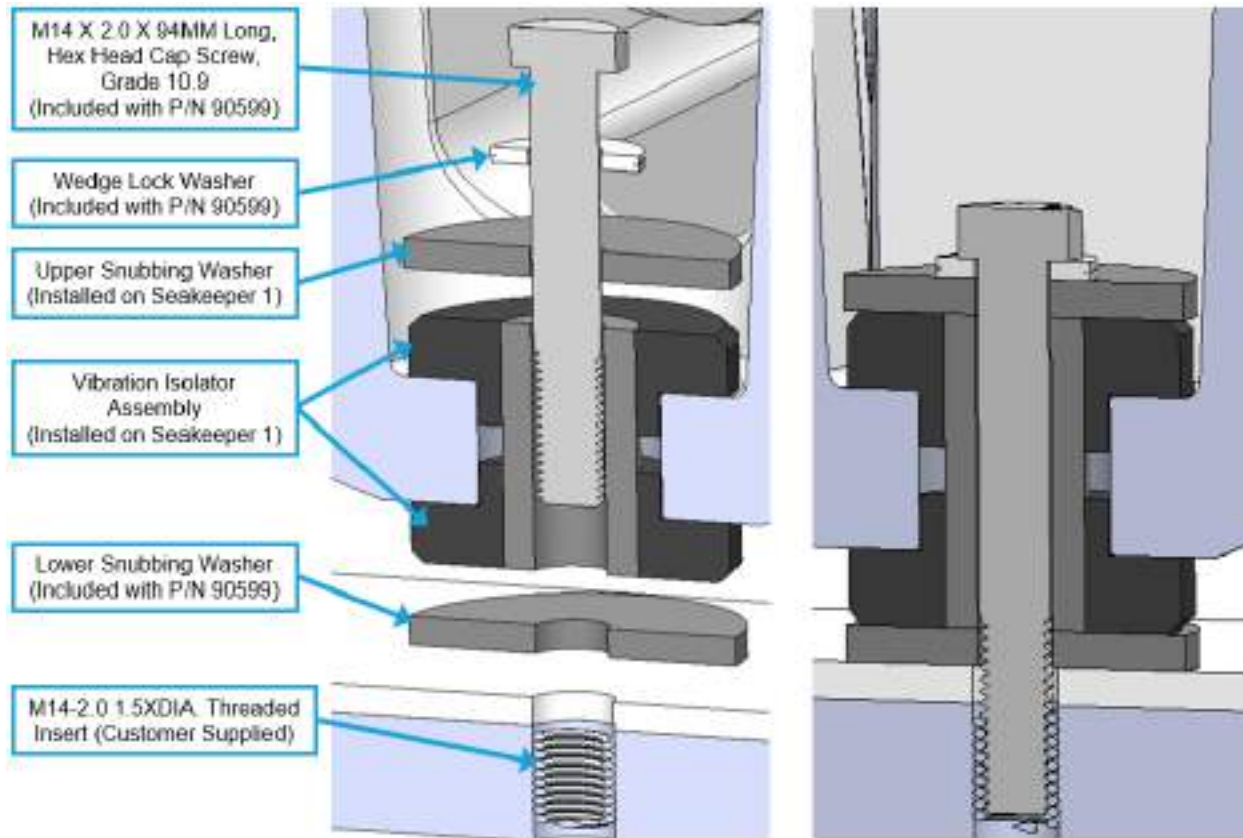

Figure 8: Seakeeper 1 Bolt Stack Arrangement Exploded (left) / Installed (right) (P/N 90599)
- a. Figure 8 shows an exploded view of the Bolt-In Kit.